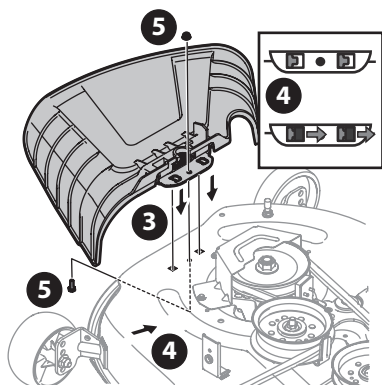

Figure 7
- Place the chute deflector on the deck, be sure to insert the tabs on the chute deflector into the holes on the deck (Figure 7).
- Slide the chute deflector toward the rear of the tractor until the bolt hole in the chute deflector aligns with the hole in the deck (Figure 7).
- Secure the chute deflector in place with the flange lock nut and hex screw removed in Step 2. Tighten to 102-124 in.-lbs (12-14 N-m) (Figure 7). Skip ahead to Setting the Deck Wheels (If equipped).